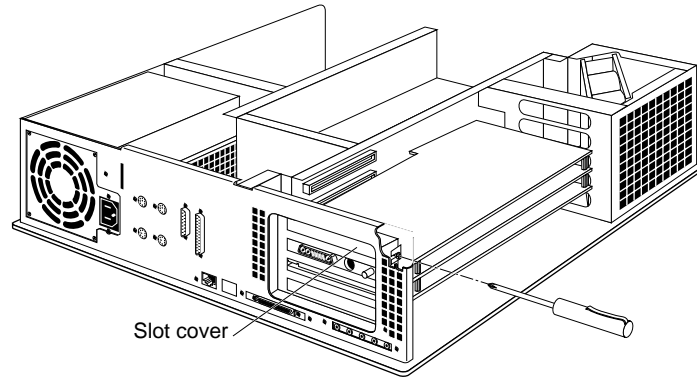

Figure 3-5 Removing the back-panel cover
4. Remove the screw that attaches the slot cover to the chassis. The screw is located inside the chassis on the outer end of the cover, as shown in Figure 3-5.